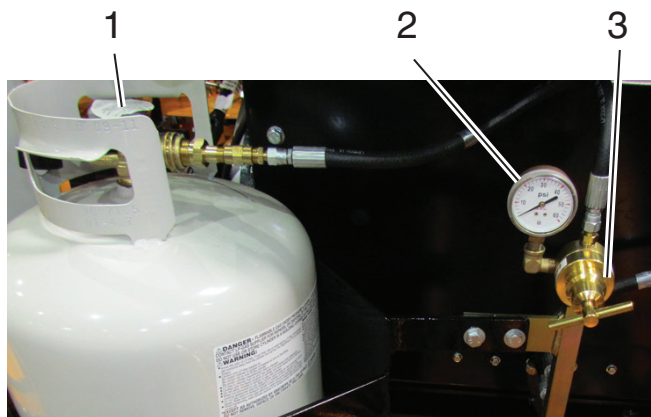

Figure 4-8. Propane Tank
2. Open the main valve on the propane tank. Set the pressure regulator valve so pressure gauge reads between 5 to 8 pounds. See **Figure 4-8**.